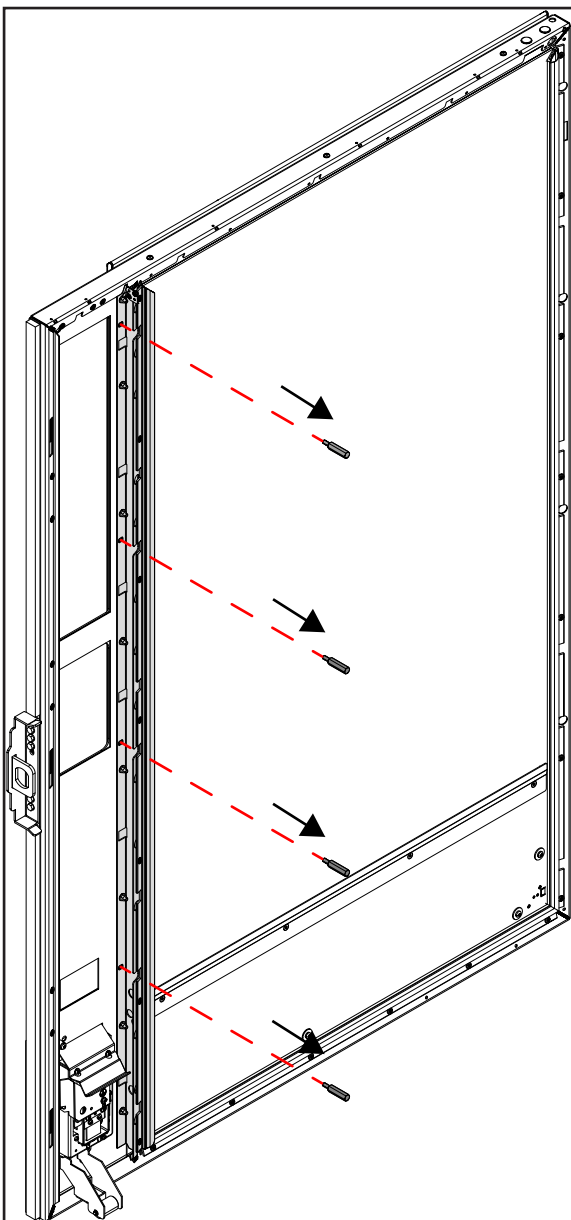

Figure 7
3. Remove 4x hexagon head bolts (size 10) (Fig. 7+8)